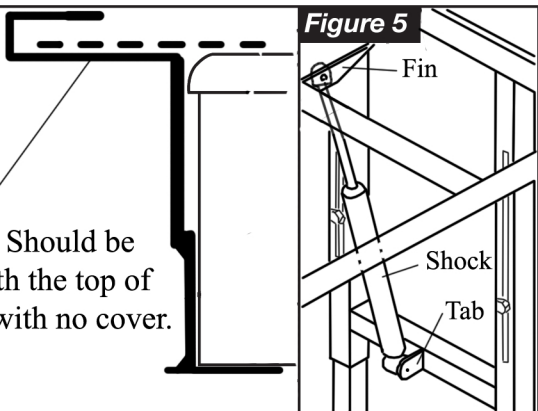
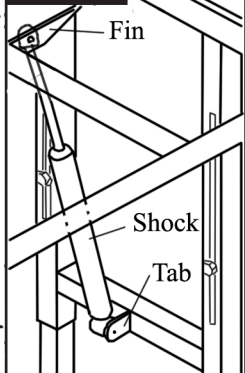

**Figure 3**
**Figure 4**
**Step 3.** Slide the open supports of the MAIN UNIT over the SUPPORT LEGS. Next, loosely thread the ADJUSTMENT SCREWS through the WASHER into the holes in the SUPPORT LEGS. Adjust the height of the MAIN UNIT (see figure 4.) The MAIN UNIT will be held in place by tightening the ADJUSTMENT SCREWS to pinch the washer against MAIN UNIT. SEE FIGURE 3.
**Step 4.** Attach the Left and Right U-ARMS to the open tubes of the MAIN UNIT using the spring buttons (already attached.) Swing the U-ARMS up so they are parallel with the ground and using the ADJUSTMENT SCREWS, adjust the height of the MAIN UNIT so that the U-ARMS are level with the top of the spa without the cover. SEE FIGURE 4. NOTE: IF YOUR SPA COVER IS TOO THICK WHEN FOLDED TO FIT WITHIN THE U-ARMS, USE THE INCLUDED EXTENSION PIECE TO WIDEN THE ARMS.